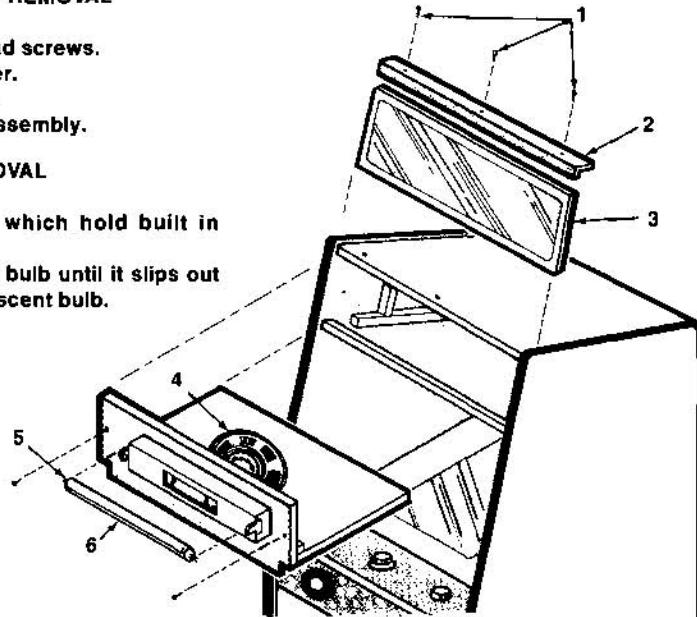

Figure 4-11 Lamp/Speaker and Fluorescent Lamp Removal
F. LAMP/SPEAKER ASSEMBLY REMOVAL (See Figure 4-11)
Super Breakout contains a combined fluorescent lamp and speaker assembly, located at the inside top of the game cabinet assembly. To replace this assembly or any subcomponent, remove the Plexiglas retainer and shield as shown in Figure 4-11.